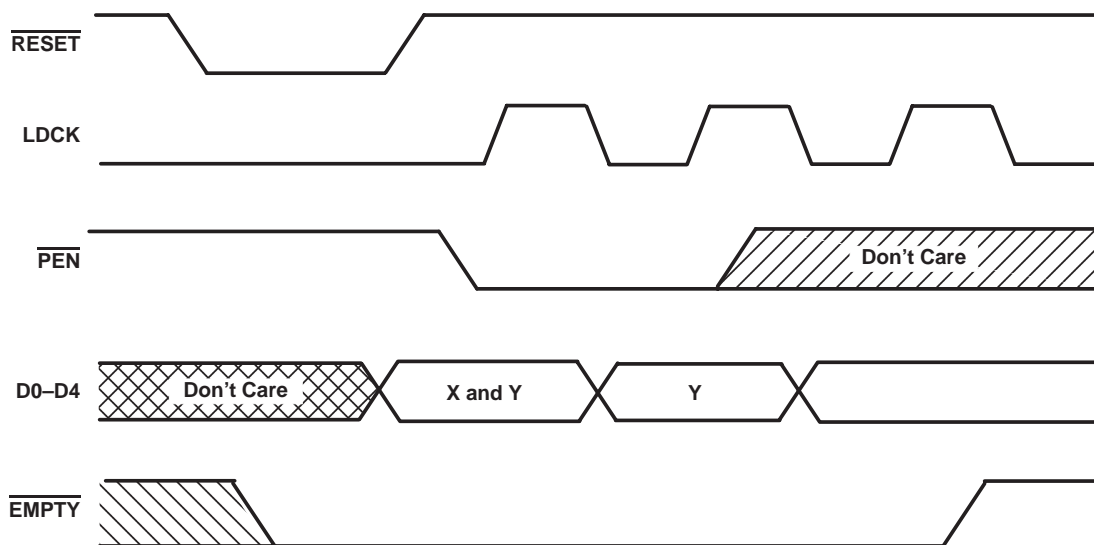

Figure 1. Programming X and Y Separately
To program the offset values,  $\overline{PEN}$  can be brought low after reset only when LDCK is low. On the following low-to-high transition of LDCK, the binary value on D0–D4 is stored as the almost-empty offset value (X) and the almost-full offset value (Y). Holding  $\overline{PEN}$  low for another low-to-high transition of LDCK reprograms Y to the binary value on D0–D4 at the time of the second LDCK low-to-high transition. Writes to the FIFO memory are disabled while the offsets are programmed. A maximum value of 31 can be programmed for either X or Y (see Figure 1). To use the default values of X = Y = 8,  $\overline{PEN}$  must be held high.
### timing requirements over recommended operating conditions (see Figures 1 through 3)